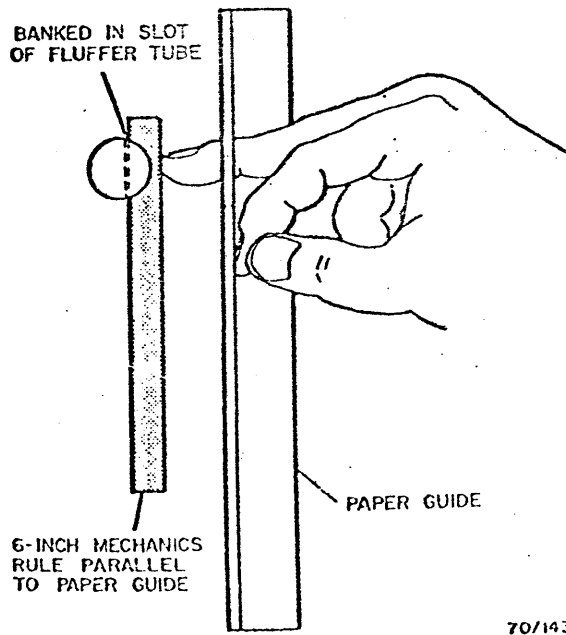

Fig. 3-76. Fluffer Slot
- Check the fluffer slots (Fig. 3-76). If necessary, adjust by tilting the brackets until the slots are parallel to the paper guides. Recheck fluffer height and ensure that the snubbers move freely throughout their full travel.